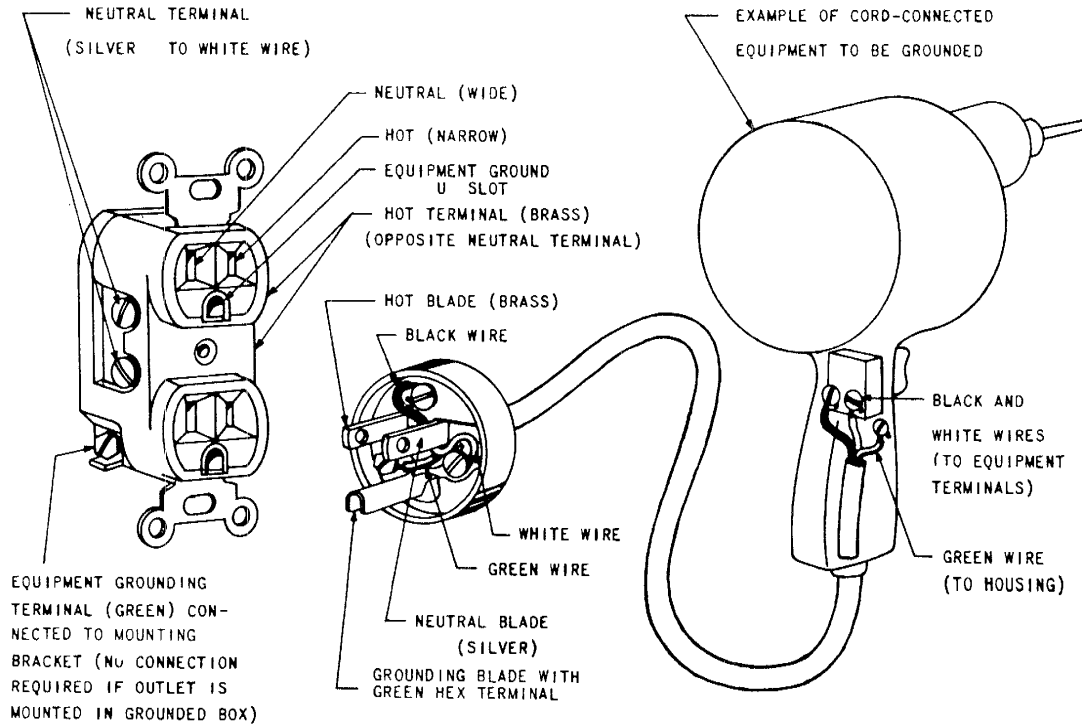

Fig. 5 — Wiring of 125-volt Standard Plug and Receptacle
**5.01** The most satisfactory method of providing an effective ground is through the connection of a 3-blade plug to a comparable 3-wire receptacle. (see Fig. 5).